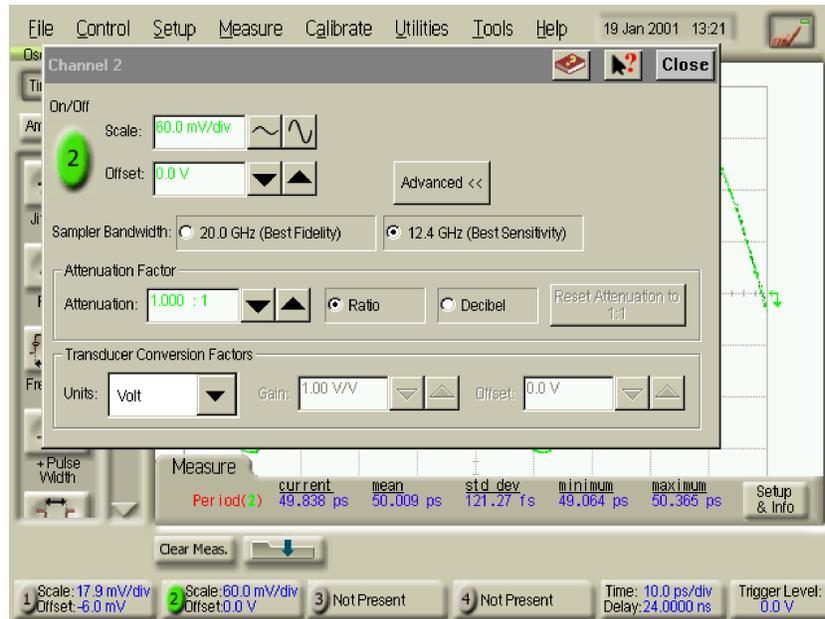

Figure 2-7. Setting Best Sensitivity for Measuring Time Interval Accuracy
- On the DCA screen, press Setup, the channel in use, then press Advanced. See Figure 2-7.